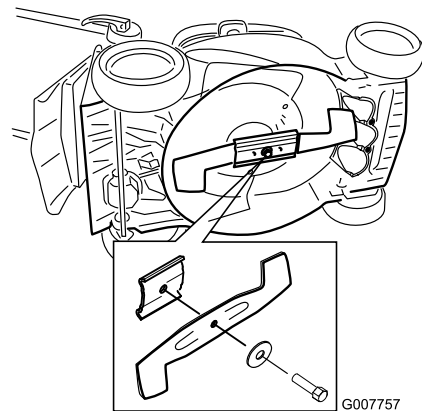

Figure 30
2. Tip the mower onto its side with the air filter up (Figure 30).